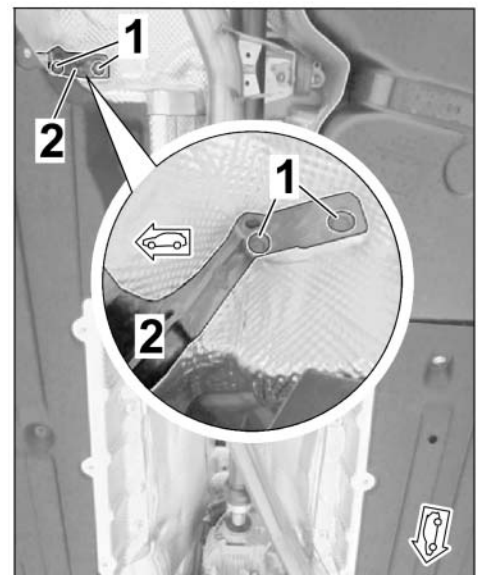

Figure 6
1.3.2 Remove hexagon flange bolt, M8 x 25 (2 x) on the heat shield holder. ⇒ *Figure 6*